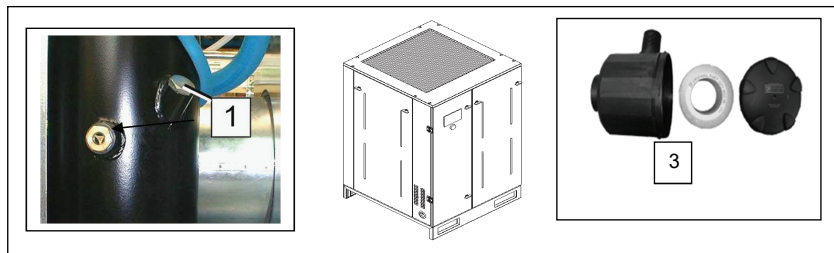

FIG. 12
After checking everything as indicated in Chap. 12, follow the instructions in Fig. 12.
- Check the oil level Ref. 1 Fig. 12 when supplied the machine is filled with oil; if the oil is not at the correct level, top up with the same oil as the original type.